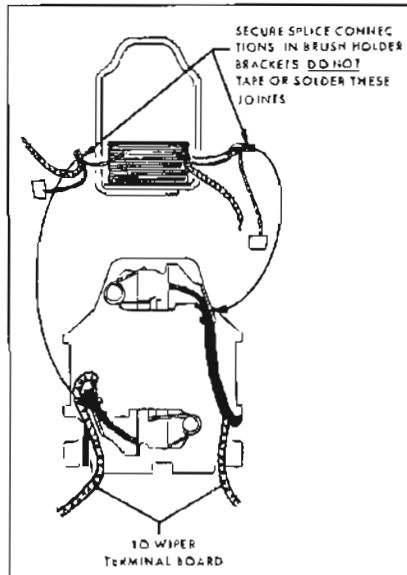

Figure 10-78—Motor Wiring
(1) Check solder connection at terminal board.
(2) Disassemble motor section and check all splice connections (Figure 10-78).
(4) Brush pigtail connections at splice joints (Figure 10-78).